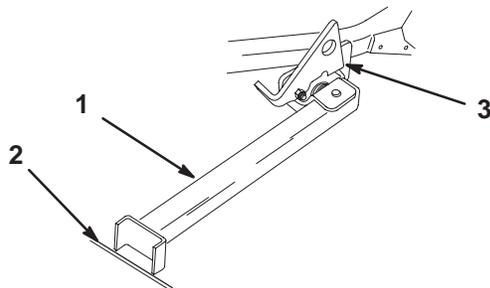

Figure 25
- Set foot of stand on the ground and rest latch on pivot tab (Fig. 25).
Note: For best results, place foot of stand into seams in sidewalks or into turf (Fig. 25).
- Drive onto stand. Stop when latch drops over tab into locked position (Fig. 25). Once onto stand, engage parking brake. Shut off engine.